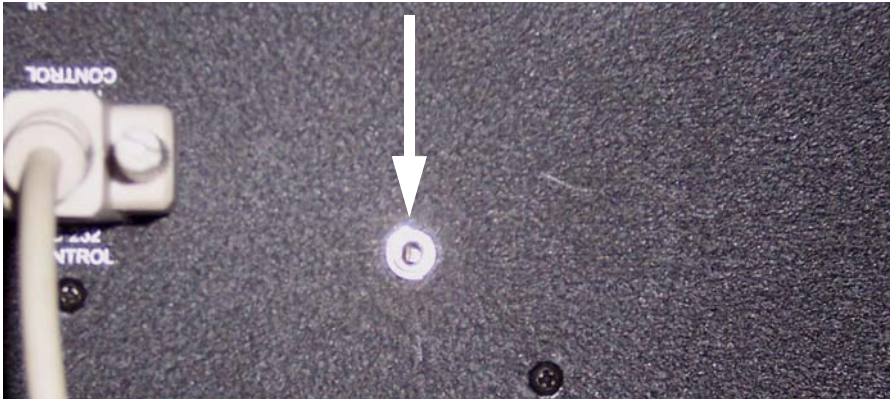

Figure A-3. Vision 90t/100t Secondary RS-232 Port
3. Connect the 3.5-mm phono plug to the secondary RS-232 port on the rear of the projector. This port is not labeled, but is to the right of and slightly below the primary RS-232 port; see Figure A-3.